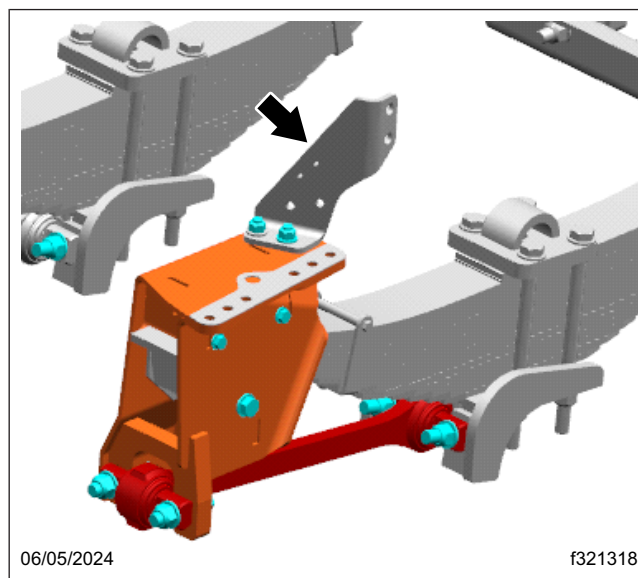

Fig. 2, Engine Crossmember Brace Bracket
3. Remove the engine crossmember brace bracket from the suspension hanger. See Fig. 2.